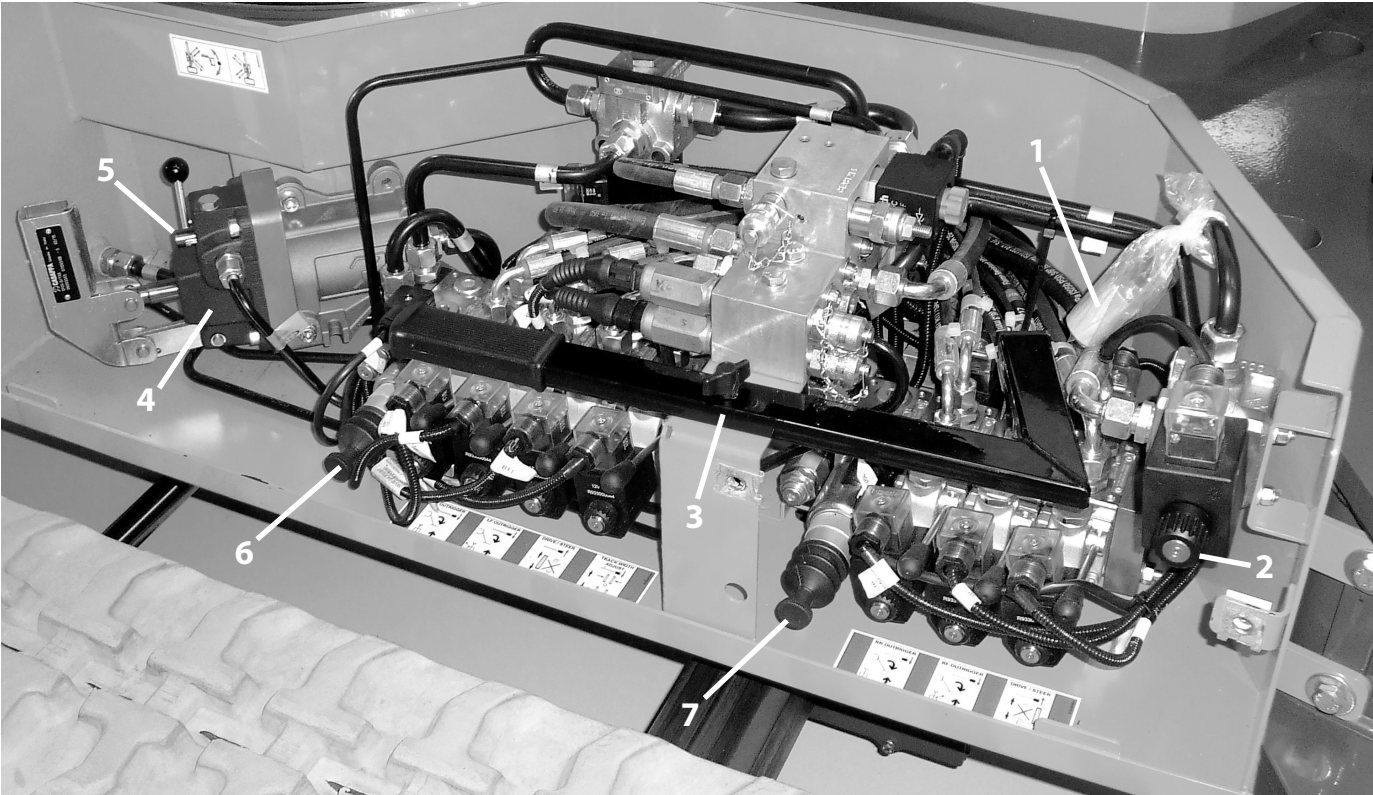

Figure 5-3. Hand Pump - Chassis Control Valve Tray
(See Figure 5-3.)
(See Figure 5-3. and image to the right.)
If machine CANNOT be powered ON, then the silver/black knob tool (item 1 - Figure 5-3.) in the plastic bag is needed to screw on to (item 2 - Figure 5-3.). This will allow oil flow to the RIGHT outrigger/track valve set (item 7 - Figure 5-3.). With NO power and without the tool installed on (item 2) the flow defaults to the LEFT side outrigger/track valve set (item 6 - Figure 5-3.).
Outrigger Functions: (See Figure 5-3.)
4. Locate the proportional flow valve attached to the group of three valves (item 7 - Figure 5-3.). Press the knob on the valve in until it stops.
(Item 7 - Figure 5-3.)
1. Locate the proportional flow valve attached to the group of four valves (*item 6 - Figure 5-3.*). Press the knob on the valve in until it stops.
3. If operating with NO power, and if still installed from right side operation, remove the valve tool (*item 1 - Figure 5-3.*) from the flow valve (*item 2 - Figure 5-3.*)
(Item 6 - Figure 5-3.)